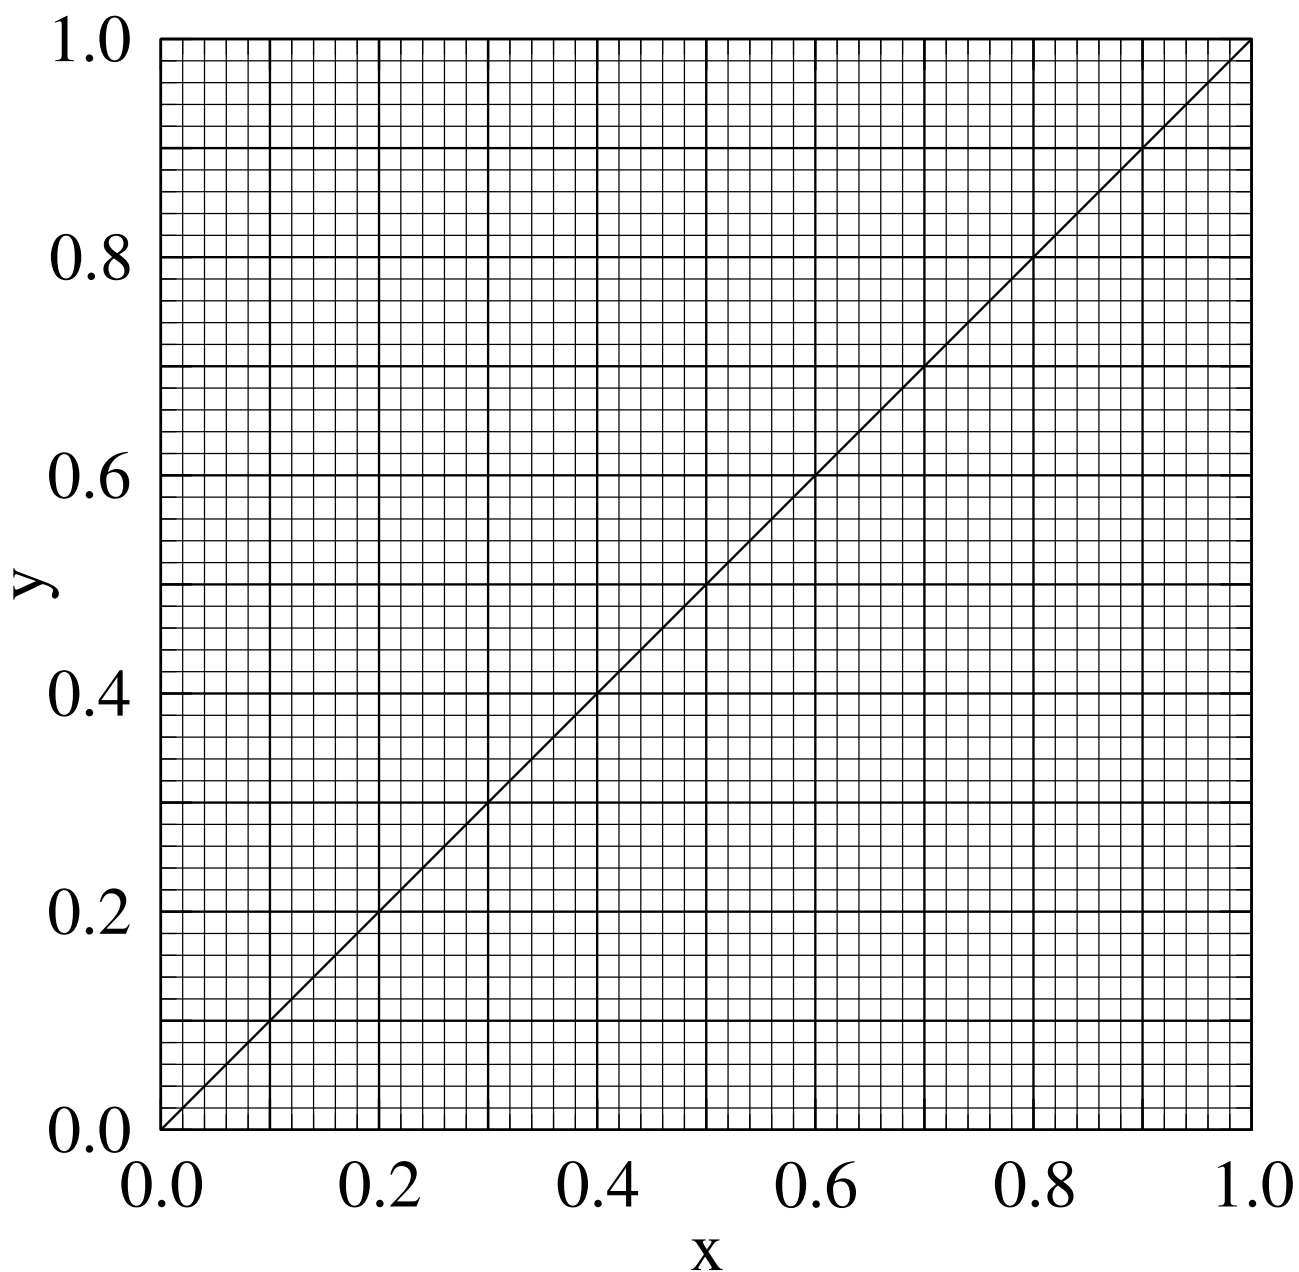

Figure 20: A blank chart for plotting VLE/operating-line data on. For use in Q. 6.23.
- a) Calculate the number of theoretical trays required to perform this distillation **and** the feed tray number. A blank VLE graph is given in Fig. 20.